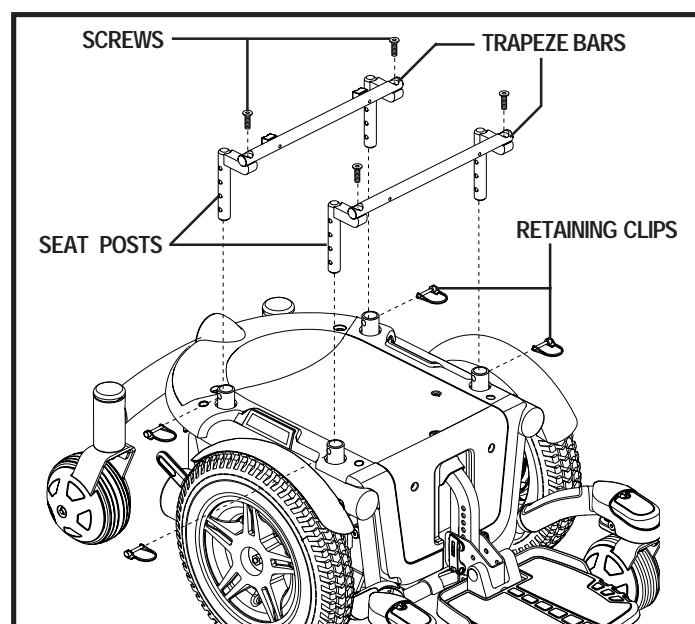

Figure 13. Seat Adjustment - Trapeze Bars
7. Loosen the screws that attach the trapeze bars to the seat posts. See figure 13.
8. Remove the retaining clips that secure the seat posts to the power base. See figure 13.